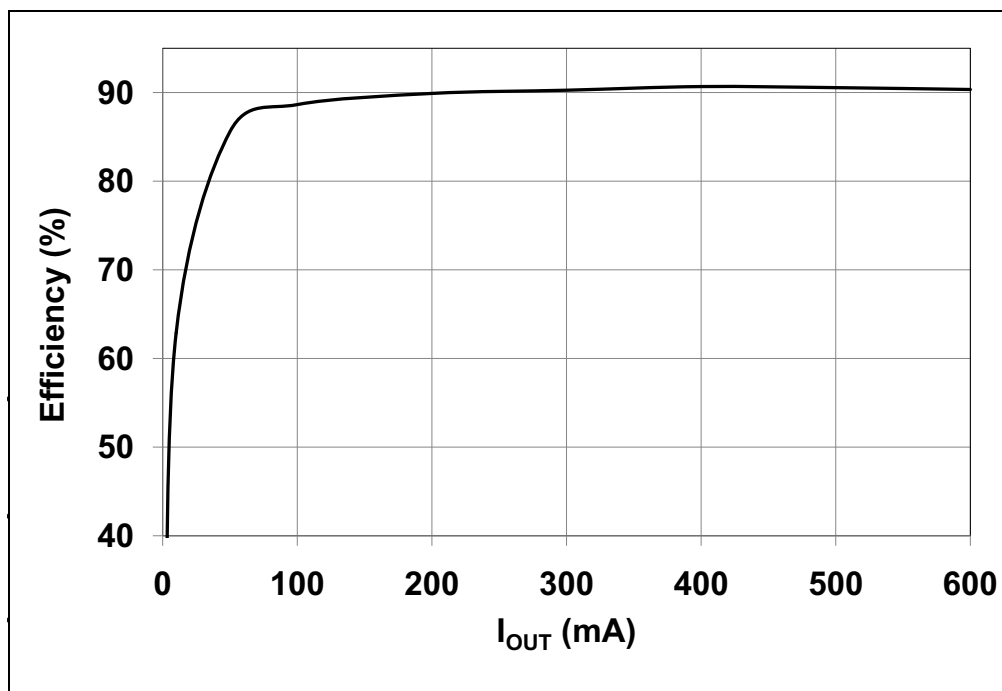

FIGURE 2-1: Efficiency vs. Load Current at 12V Input.
- Efficiency: Up to 91% @ 12V Input (see Figure 2-1)
Additional analysis can be performed by changing the RC snubber and R_{BOOST} resistor values (see Figure 2-1). These additional circuits lower the efficiency, but reduce switching noise.
The two sense resistors (R_T and R_B in Figure 2-1) set the output (V_{OUT}) at 5.0V according to the following equation: